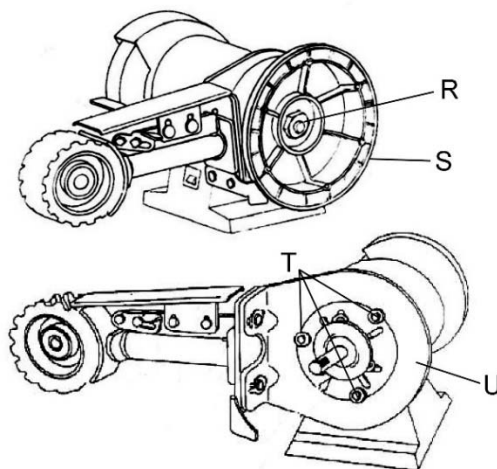

Figure 5-4
1. Remove nut (R, Figure 5-4) and slide drive pulley (S) off shaft.
2. Remove 3 screws and washers (T) and rotate adaptor plate (U) to vertical position.